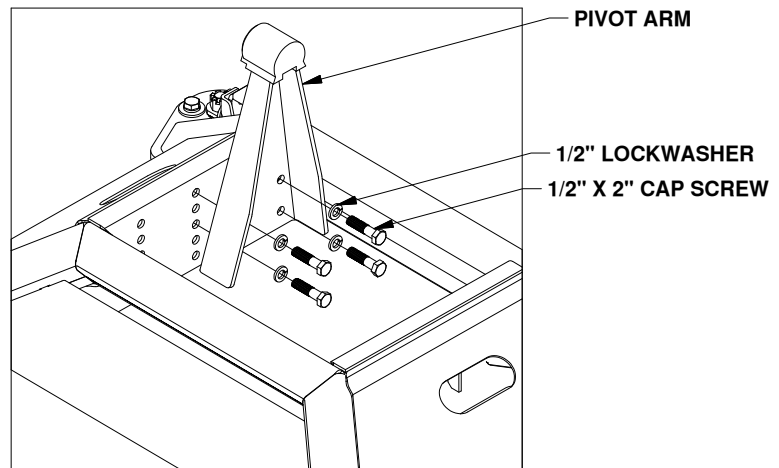
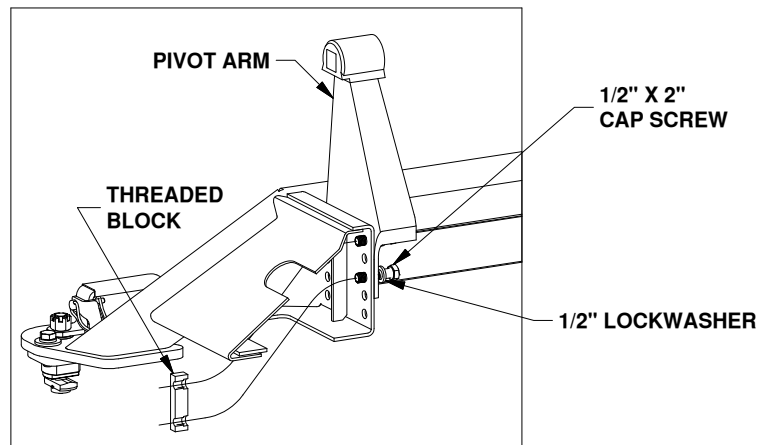

FIGURE A2: Passenger pivot arm mounting location.
FIGURE A3: Cutaway view of passenger side bolt plate.
- Locate both pivot arms, the four 3/4" threaded blocks, eight 1/2" cap screws, and eight 1/2" split lock washers. Place the lock washers over the cap screws. Align the flat side of the pivot arm flat against the bolt plate and install four 1/2" cap screws through the holes on the arm, holding the arm in place, as shown in figure A2. Locate the threaded blocks. Note that the sides of the block have threaded holes on one side and smooth bored holes on the other side. When installing the threaded blocks it is critical that the side with the smooth holes is flat against the bolt plate when installed. Pass the threaded block under the bases side and align the block with each set of screws and start each screw, as shown in figure A3. After all the screws are started through the arms, torque each bolt to 80 ft-lbs.